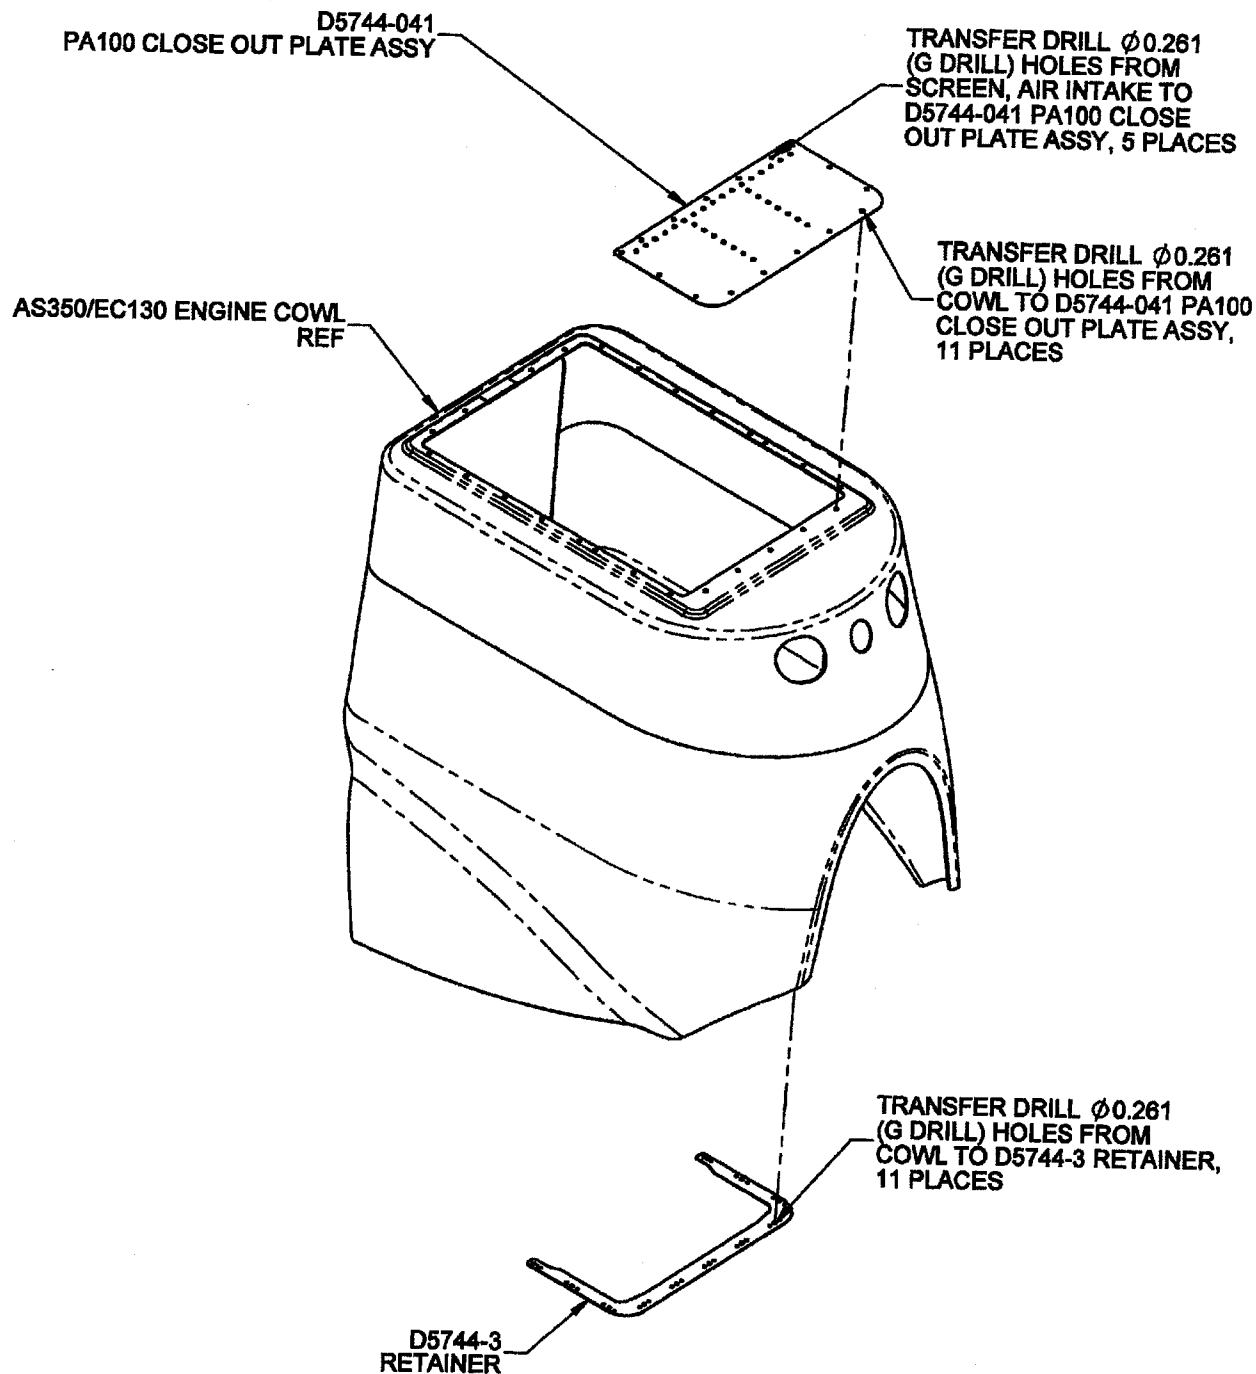

FIGURE 3 - D5744-041 CLOSE OUT PLATE ASSY & D5744-3 RETAINER HOLE TRANSFER
8. Transfer Drill 11 x $\phi 0.261$ " - 0.266" (G-H drill) holes from cowl to D5744-041 PA100 Close Out Plate Assy as shown in Figure 3.
9. Transfer Drill 5 x $\phi 0.261$ " - 0.266" (G-H drill) holes from air intake screen to D5744-041 PA100 Close Out Plate Assy as shown in Figure 3.
10. Transfer Drill 11 x $\phi 0.261$ " - 0.266" (G-H drill) holes from cowl to D5744-3 Retainer as shown in Figure 3.